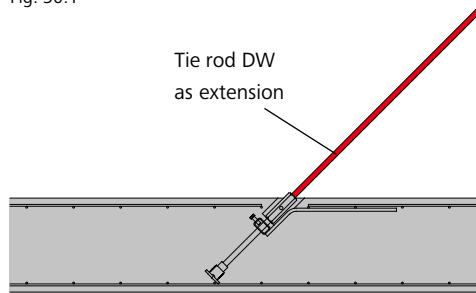

Fig. 30.3
Step 3: The extension tie rod DW is screwed into the coupling nut and can thus be used to anchor the support frame (Figures 30.3 to 30.4). Refer to Table 30.6 for the minimum length of the extension tie rod DW.